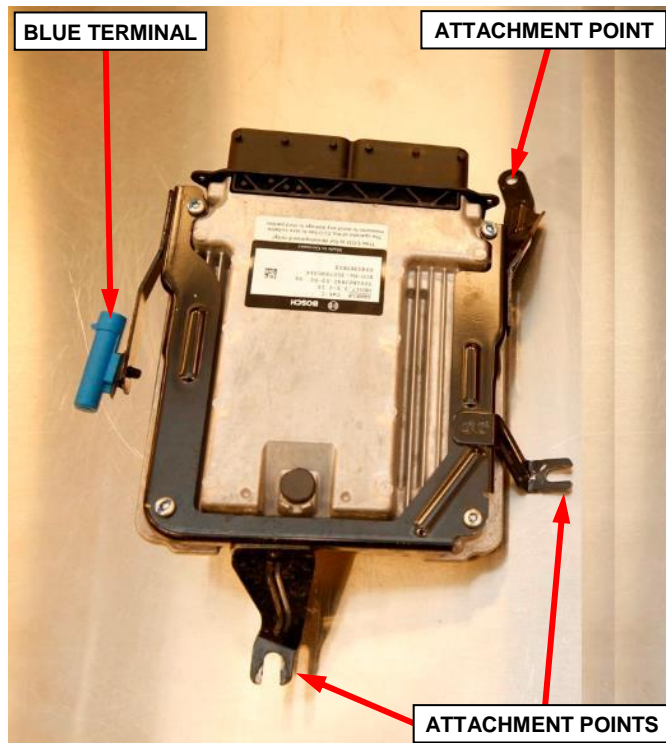

Figure 22 – Primary PCM
47. Loosen the one remaining lower attachment nut securing the primary PCM bracket to the cowl (Figure 22).
48. Disconnect the electrical connector from the blue terminal on the primary PCM bracket, then remove the primary PCM from the vehicle (Figure 22).
4. Connect the electrical connector to the blue terminal on the primary PCM bracket, then install the primary PCM to the vehicle (Figure 22).
5. Tighten the lower attachment nut securing the primary PCM bracket to the cowl 9 N·m (80 in. lbs.) (Figure 22).